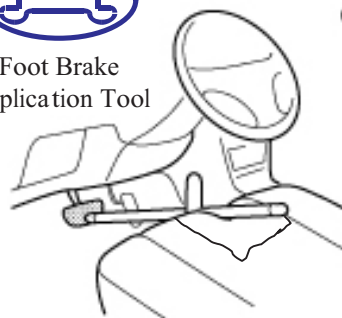

Fig. A-3
- 3. Add seat protection (blanket) and apply foot brake using foot brake application tool. (Fig. A-3)